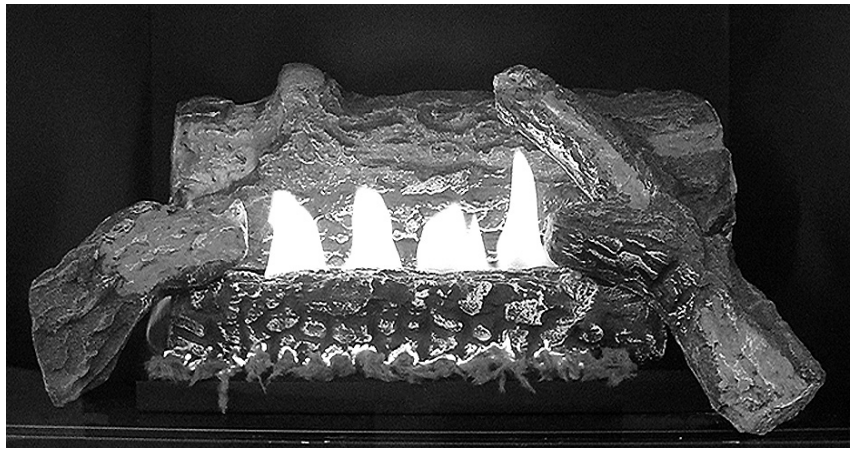

Figure 9 - Burner Flame Appearance Model SSDV-3328 Series
Ensure that the burner flame appearance resembles the flame shown in **Figure 9** and as described in *Flame Appearance and Sooting* on **Page 9**. The Homeowner must contact a qualified service technician at once if any abnormal condition is observed.
3. Allow the burner to operate for at least 15 minutes while observing the flame continuously to ensure that the proper flame appearance has been achieved (see **Figure 9**). If the following conditions are present, adjust accordingly.